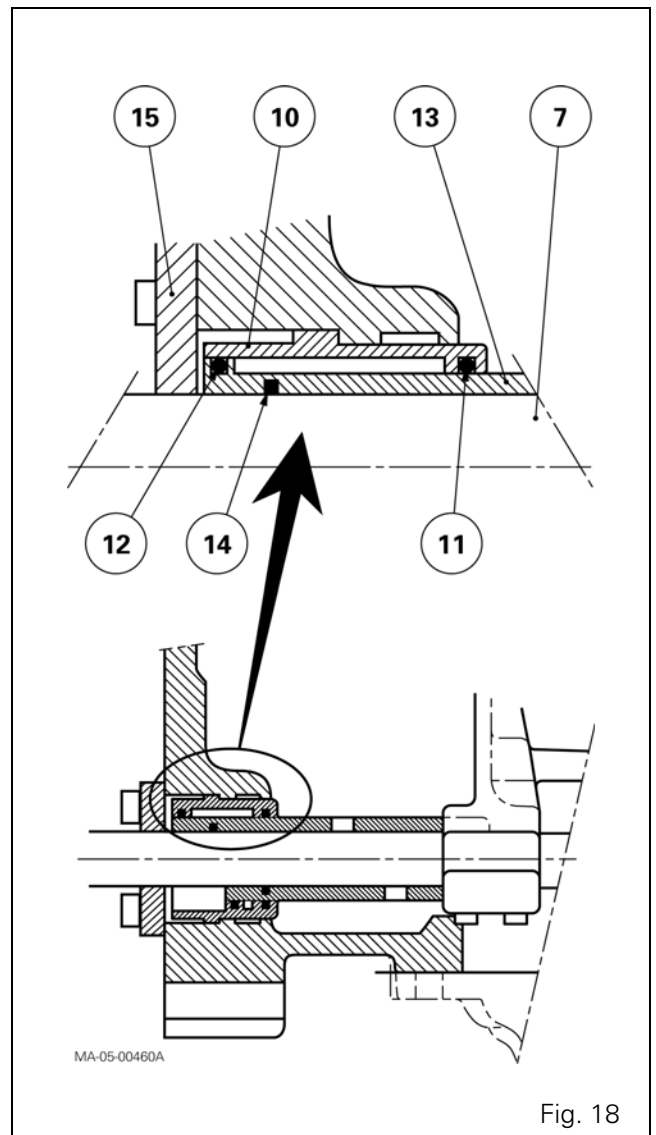

Fig. 18
- 65.** Check that the hydraulic ports in the Hare / Tortoise cylinder (10) are not obstructed. Refit the cylinder fitted with a new "O" ring (11) (Fig. 18).
The cylinder (10) is held in position (Fig. 18):
- at the rear, by the cover plate (15).
- 67.** On the piston (13), fit the "O" rings (12) (14), and then insert the piston into the cylinder bore (10) and onto the selector rail (7) (Fig. 18).